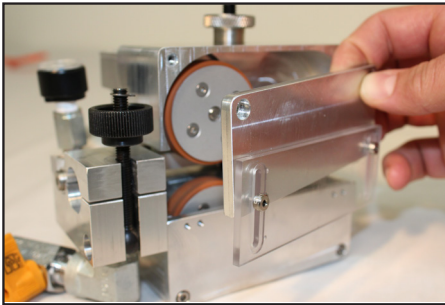

Figure 23. Remove Front Cover Plate
- a. Remove side plates from the GS150 (Figure 23).
- f. Reinstall side plates on the GS150 (Figure 23)